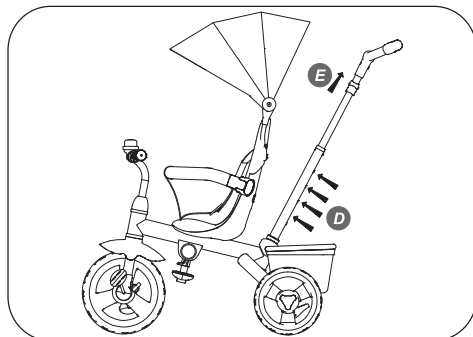

Fig. 11
13. The Parent Handle can be adjusted to 1 of 4 height positions **D**. To adjust, pull up the Parent Handle Height Release **E** which will unlock the Parent Handle allowing it to be adjusted into the desired position. (See Fig. 11).